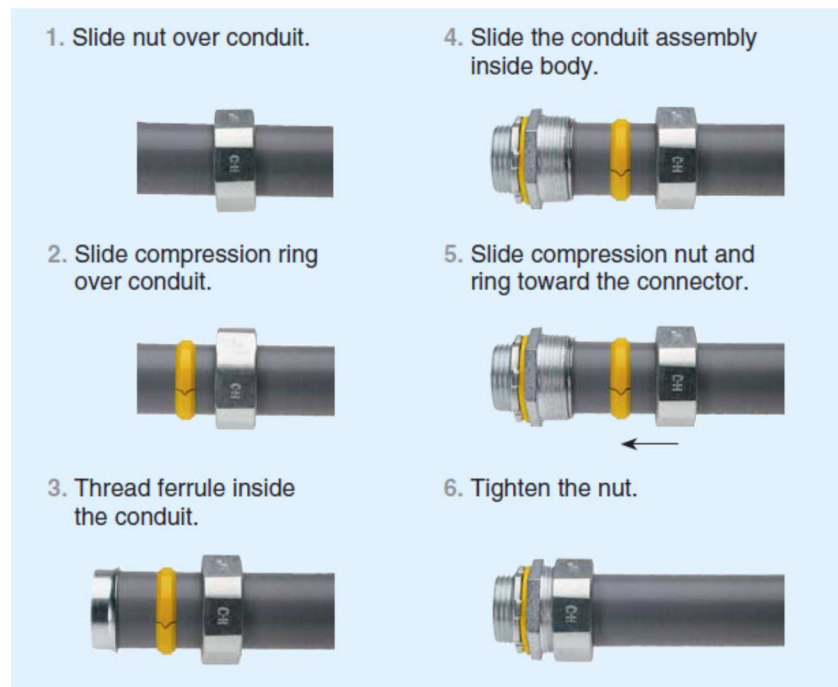

Figure 3-2. Liquid Tight Fitting Installation
3. Install Liquid Tight conduit fittings (see Figure 3-2).